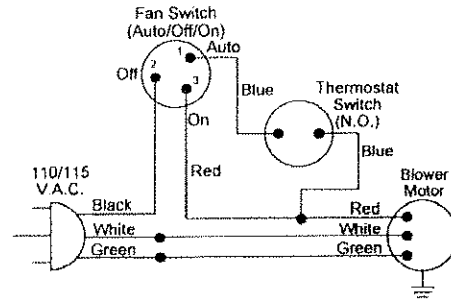

Figure 16 - Wiring Diagram For Blower Accessory Standard Installation
4. Carefully disconnect green and white wires at their insulated connectors (see Figure 16).